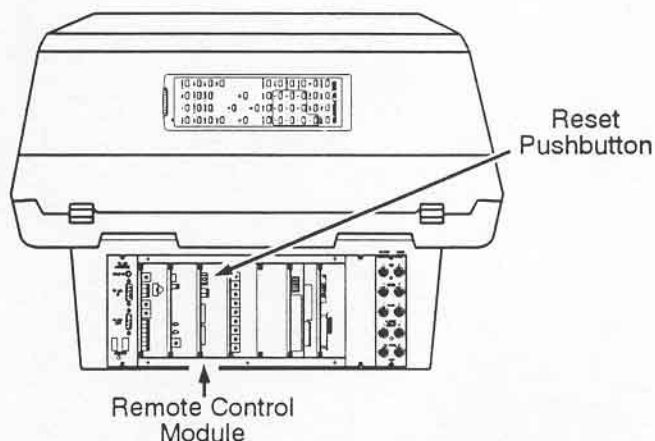

Figure 4-3. Reset Push Button
- b) Press **RESET**. A "READY TO RESET" message appears on the screen. Within 5 seconds of pressing the Reset key, press the red reset button on the Remote Control Module as shown in Figure 4-3. The projector should turn off.